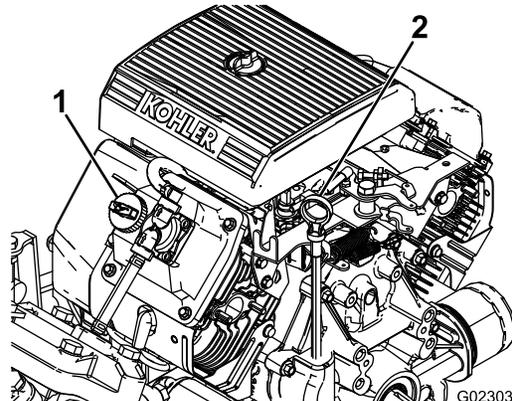

Figure 11
2. Remove the dipstick and wipe it with a clean rag (Figure 11).
4. If the oil level is low, remove the filler cap from the valve cover (Figure 11) and pour oil into the opening until the oil level is up to the FULL mark on the dipstick; refer to Servicing the Engine Oil \(page 49\) for the proper oil type and viscosity. Add the oil slowly and check the level often during this process. Do not overfill.